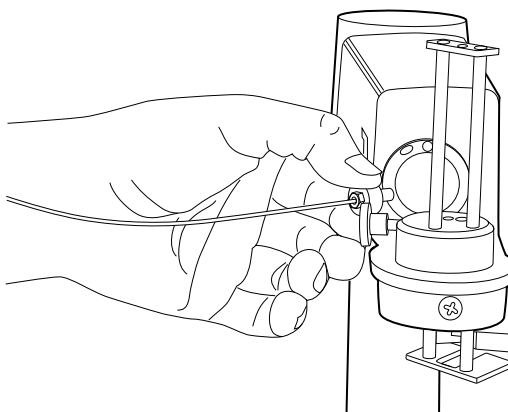

Figure 2-10. Connecting a capillary to the lower port
- 2 Connect the free end of the capillary to the lower port on the valve manifold in the delivery unit on Frac-950, see Figure 2-10.